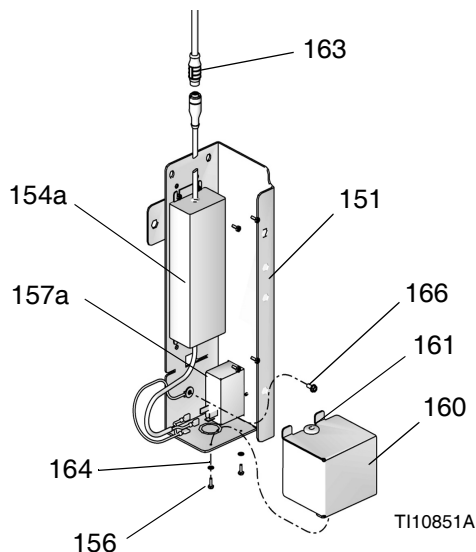

FIG. 39
2. Mount power entry module (157a) and 100-240 VAC power supply (154a) on mounting bracket (151).
3. Install power supply output cable to CAN cable (509). See FIG. 39.
- b. Connect brown wire to Line (L).
- c. Connect blue wire to Neutral (N).
5. Install grounding screw (166) through eyelet terminal of power supply ground (green) pigtail wire and fasten to power supply enclosure (151).
6. Install cover plate (160), screws (156), and washers (164).